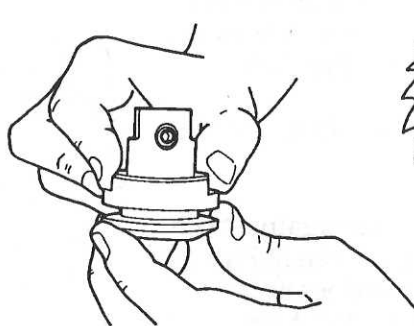

Fig. B-59a
**a.** Remove the arbor nut by turning it clockwise, as seen in Fig. B-59a. Hold the arbor with the threaded part pointing to the left.